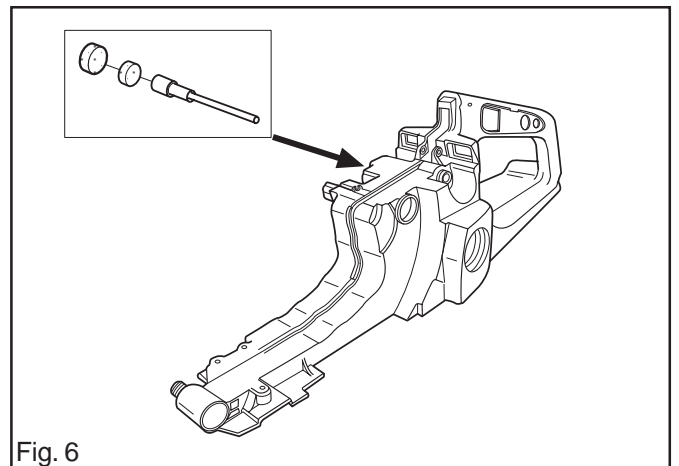

Fig. 6
5. The vent for the fuel tank is placed on the right-hand side of the tank. See fig. 6.
Score marks in the piston. Fig. 6